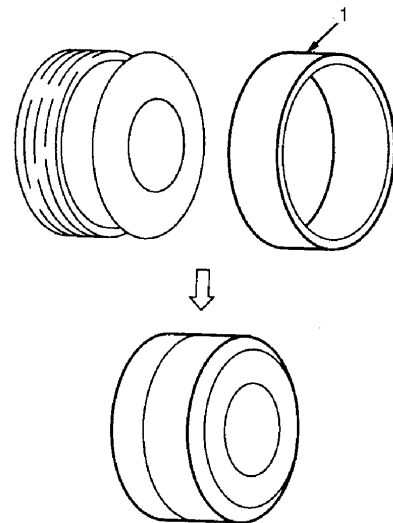

Figure 31
16. Install wear ring (1, Figure 31) on piston.